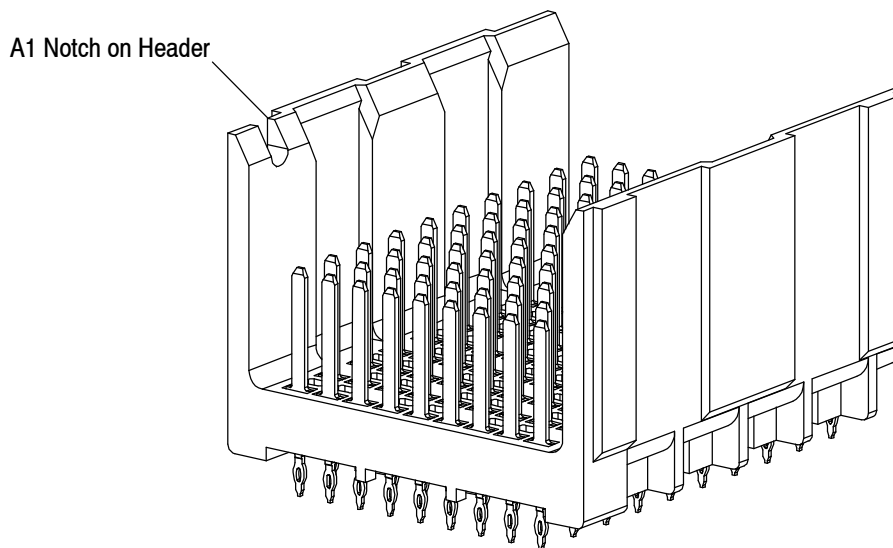

Figure 7
*Vertical pin header connectors must be placed on the pc board so that pin 1 to pin 1 orientation is maintained. For contact 1 indicators, see Figure 7.*